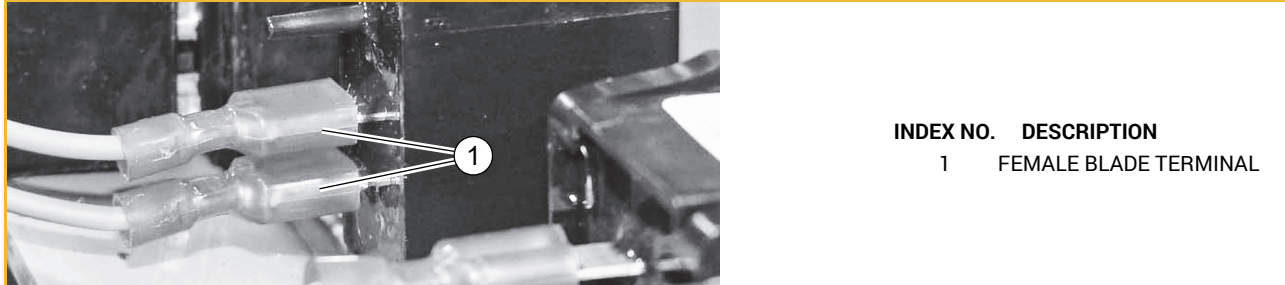

FIG. 8
- 17.** In the instrument panel wiring area, locate the light harness and connect the two female blade terminals to the back of the light switch (polarity is not critical). FIG. 8